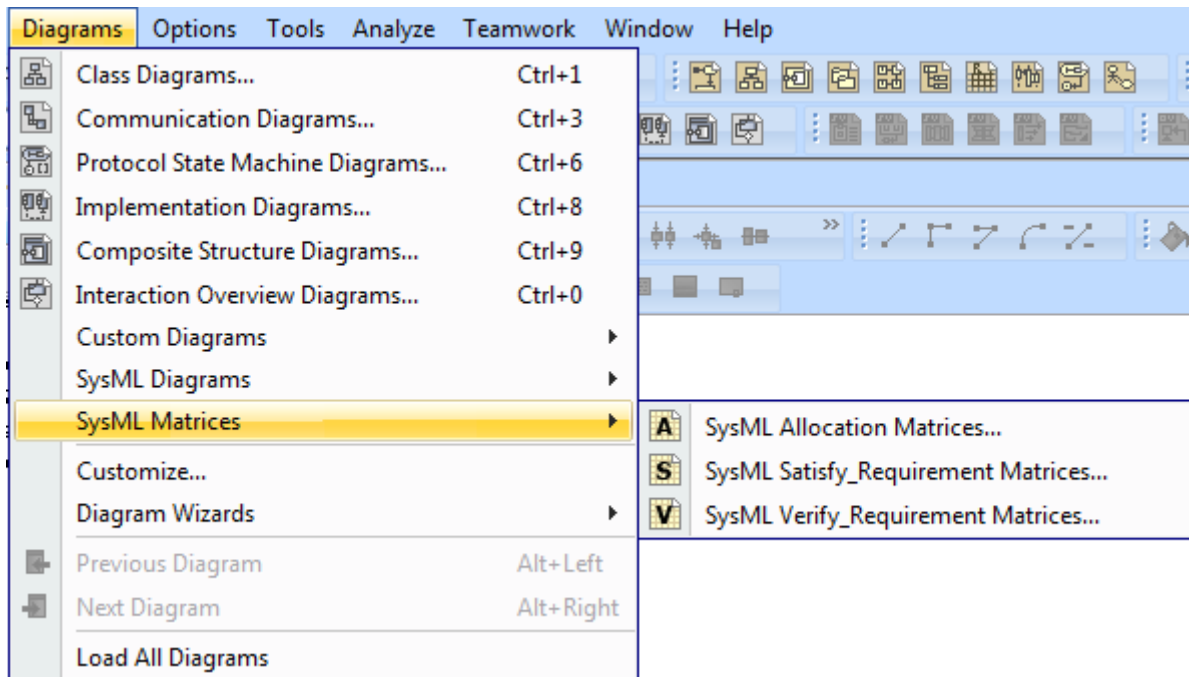

Figure 260 -- SysML Matrices Menu
1. Click **Diagram > SysML Matrices** on the main menu (Figure 260).
2. Select a SysML Editable Matrix that you want to create from the submenu (Figure 260).